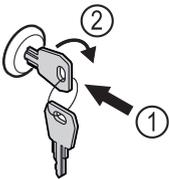

Fig. 123
- ▶ Insert key Fig. 123 (1).
- ▶ Turn key clockwise by 90° Fig. 123 (2).